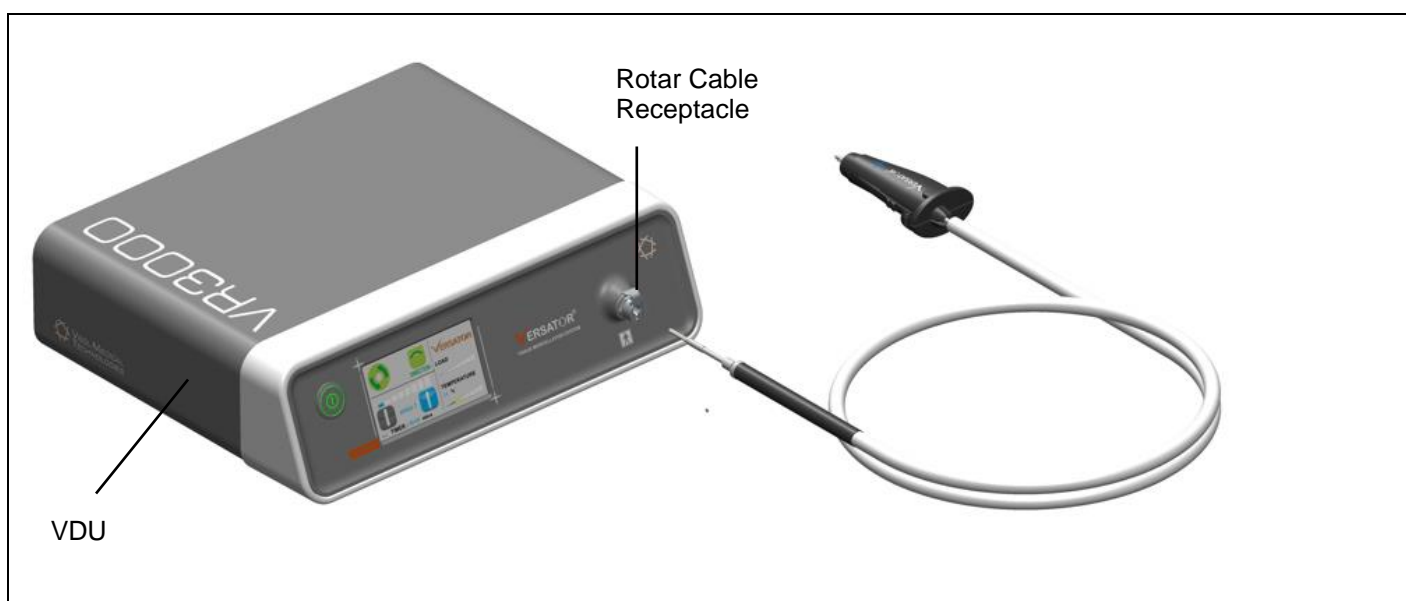

Figure 5: Connect the Rotor Cable to the VDU
- 5.1.2.4 Connect the VERSATOR® Rotor Cable-Sterile to the VERSATOR® Drive Unit (VDU), as shown in Figure: 5. Ensure that an audible click is heard when the squared end of the VERSATOR® Rotor Cable-Sterile is inserted into the CPC coupling of the VERSATOR® Drive Unit (VDU) which indicates proper locking.